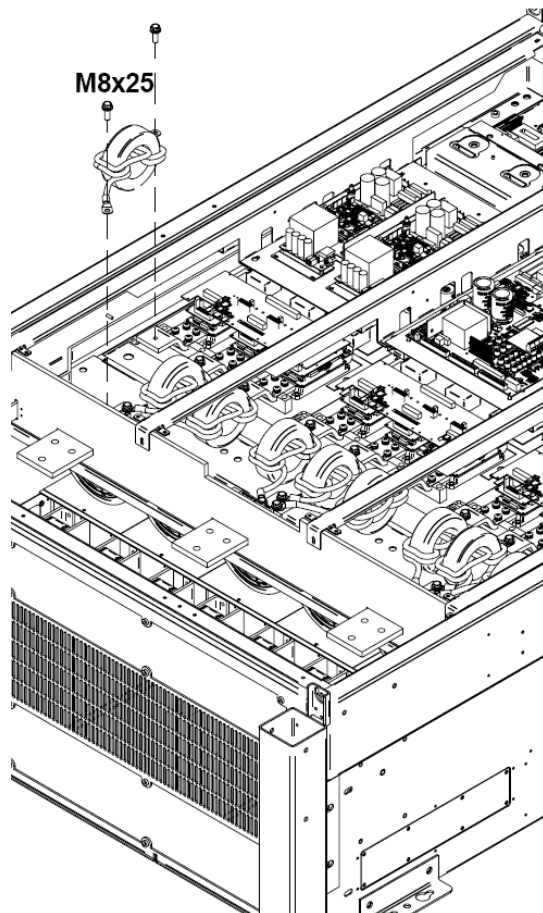

Figure 6.10. Disassembly of the output choke
Follow figure 6.10 while reading these instructions:
- 1) Insert the output choke as it is shown in figure 6.10